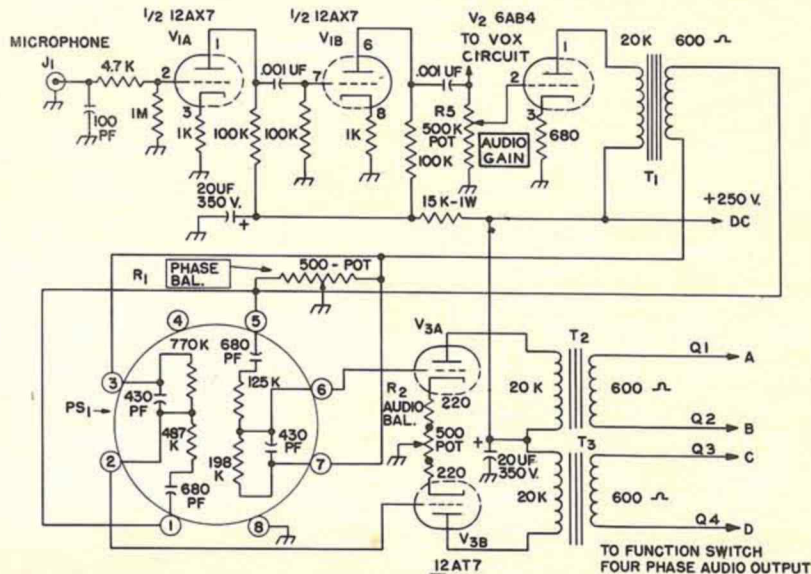

FIG. 7. AUDIO SECTION schematic diagram, showing the basing connections and internal
**AN AUDIO SYSTEM** is an integral part of single sideband transmitters. Since only a few volts of audio is required for modulation of the balanced modulators, only two or three low-level stages are necessary. In the audio system for the W2WZR transmitter, shown in Fig. 7, a 12AX7 twin triode (V1) serves as a cascade audio voltage amplifier. A 6AB4 triode (V2) drives a VOX circuit, if used, and the audio phase shift networks through a step-down transformer (T1). A commercially-made audio phase-shift network unit (PS1—a B&W type 2Q4, Model 350) was used to avoid assembly and adjustment of home-made networks. A 12AT7 twin triode (V3) in a push-pull audio amplifier serves as the modulator.